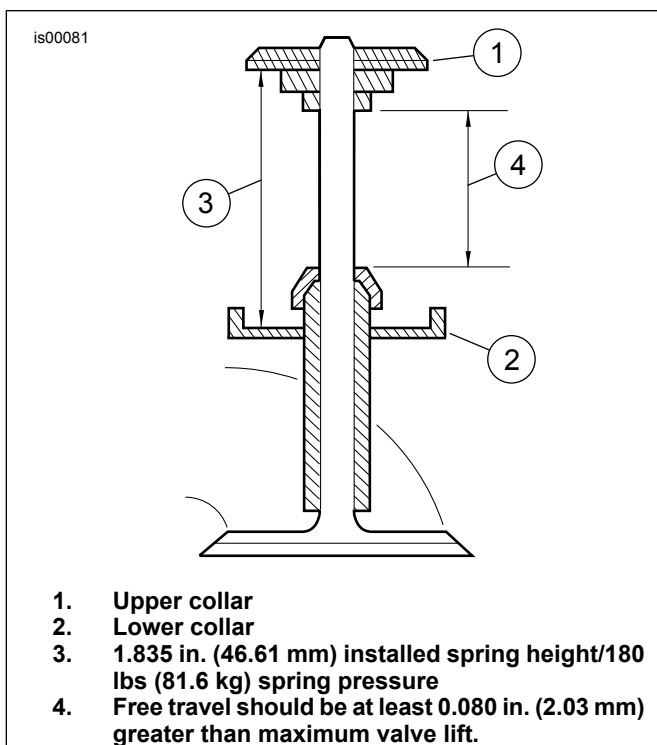

Figure 1. Valve Spring Travel
- b. See Figure 1. Use shims or machine the cylinder heads as required to obtain desired seat pressure (see notes above). Install lower valve spring collars, valve springs (do not install valve seals at this time), upper collars, and collar keys. Check installed spring height.